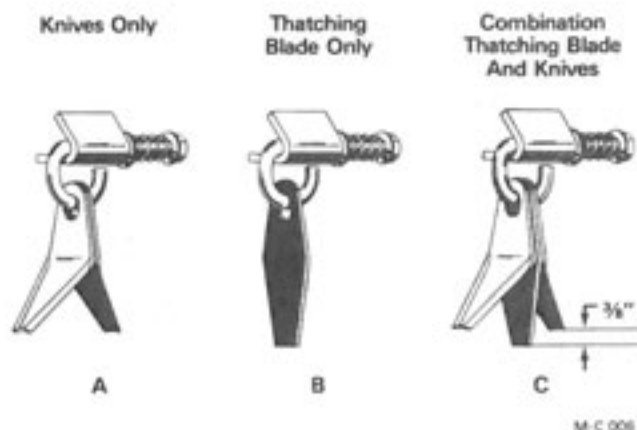

Figure 4
1. The Lawn Genie is an excellent machine for overseeding. With both the mowing knives and thatching blades installed on the rotor, it will do an excellent job of preparing an existing lawn for overseeding. The thatching blades hang down  $\frac{3}{8}$ " lower than the mowing knives (See "C" in Figure 4) and will remove the mat of dead grass and give you a seed bed in the existing turf. You will be mowing your grass very short while you are preparing a seed bed.
2. Only the thatching blades alone are used for this operation (See "B" in Figure 4).
5. Thatching blades can be installed two different ways, see "B" & "C" Figure 4.